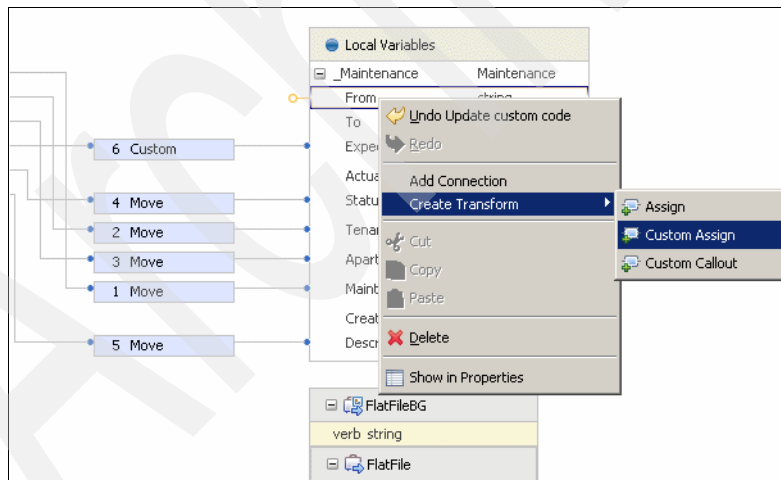

Figure 2-33 Select custom assign
24.Right-click the **From** variable in the \_Maintenance BO and select **CustomAssign** (Figure 2-33).